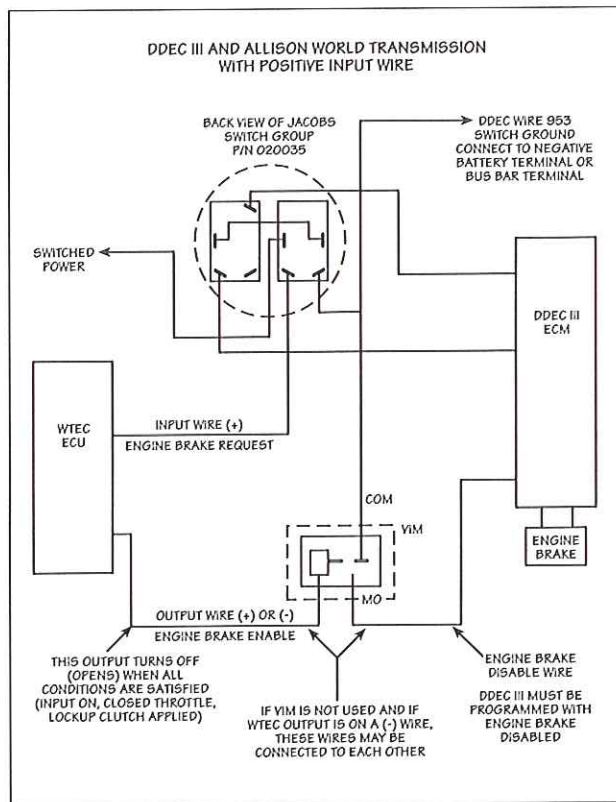

FIG. 28
3. If the engine brake request requires a ground signal, connect the engine brake request wires through the gold contacts of the on/off switch to wire 161B signal ground of the Allison World Transmission as shown in Fig. 28.
4. Wire the engine brake enable signal wire to the VIM relay or DDEC III engine brake disable as shown on Fig. 28 or 29.